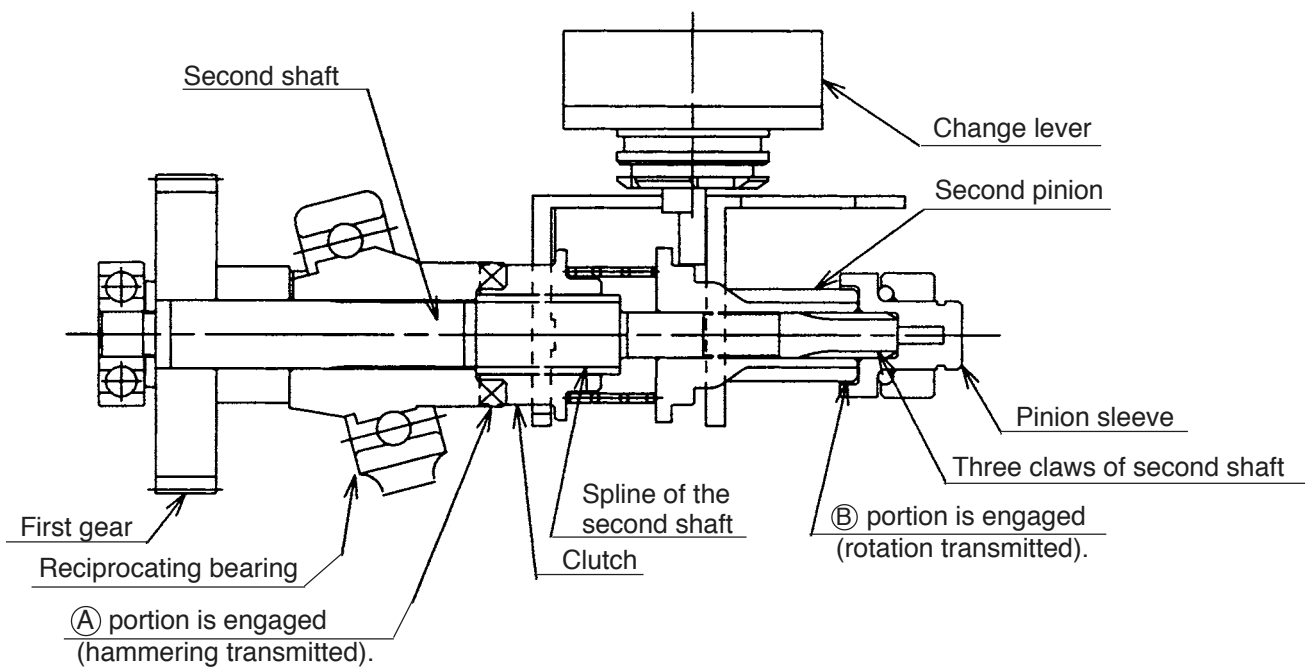

Fig. 8
(1) Rotation and hammering (Fig. 8)